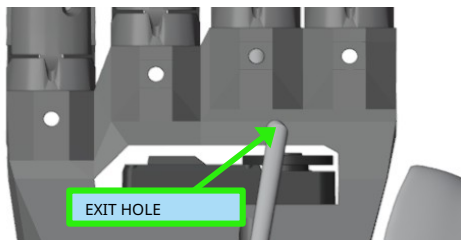
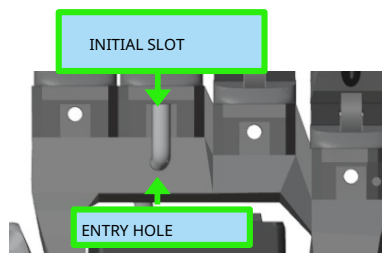

Figure 5.26: Inserting tube into the tendon exit hole (rear view)
Figure 5.27: Inserting into the circular slot (front view)
1. Insert the PTFE tube into the exit hole (on the back of the skeleton) of the flexion tendon (figure 5.26), make it come out from the entry hole on the front of the skeleton and insert it into the initial slot figure 5.27)